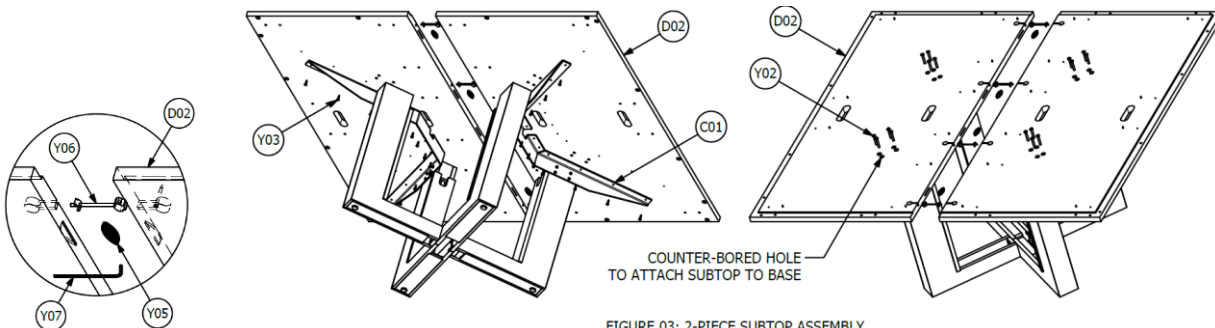

FIGURE 03: 2-PIECE SUBTOP ASSEMBLY
1. Place **All** Subtop (D02) sections on Table Base with holes to attach Subtop facing down. See Figure 03.
2. Using Biscuit (Y05) and Zip-Bolt (Y06) connect the Subtop sections to each other. See Figure 03.
3. Align counter-bored holes in Subtop to threaded inserts in base legs, then use Fastener (Y02) to secure them. See Figure 03.
4. If the table is equipped with Support Arms (C01), use Fastener (Y03) to secure them to the Subtop. See Figure 03.